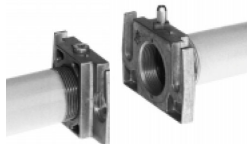

Fig. 7
1. Mount flange onto tube lines: use appropriate sealing agent (see Fig. 7);
2. insert MB-DLE: note position of O rings (see Fig. 7);